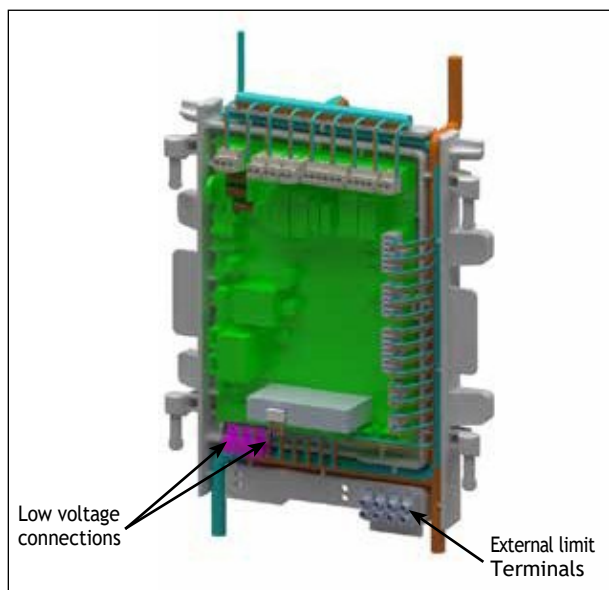

Fig. 25 - Low Voltage Connections
1. Connect the DHW aquastat or temperature sensor wires to low voltage terminals X4-1&2 located at the bottom of the CTRLMax control module as shown in *Fig. 25 on page 41*.
3. Connect the external limit wires to the Manual Reset Limit or Auto Reset Limit low voltage terminals located on the lower right corner of the CTRLMax control module housing as shown in *Fig. 25 on page 41*.
1. Connect the system temperature sensor wires to low voltage terminals X5-3&4 located at the bottom of the CTRLMax control module as shown in *Fig. 25 on page 41*.